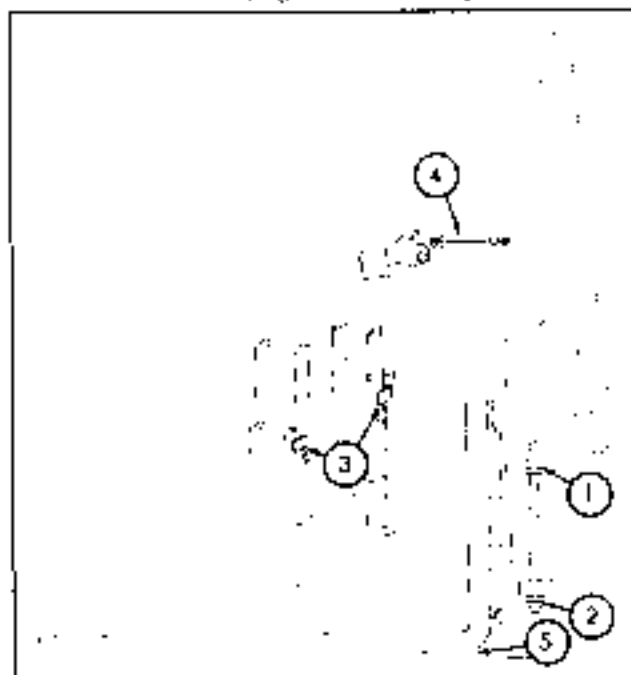

Fig. 1-63. Adjusting lift chains
d. Turn rod into chain anchors approximately 1-1/4 inches (at 1, figure 1-63). Adjust spherical nuts (2, figure 1-63) for fork-to-floor clearance of 0 to 3/4 inch (both sides).
e. Raise upright to its fullest height and check to insure a clearance at 3, figure 1-63. If stop blocks are touching, readjust spherical nuts to obtain a clearance of at least 1/8 inch.
f. Attach tension scale as shown (4, figure 1-63) and measure deflection in chain. Attach the scale to the other chain at the same height, apply the same pull, and measure the deflection. Adjust spherical nuts to equalize deflection with the same pull applied. Tighten jam nuts securely.
g. Check again for clearance at (3) with upright fully extended. Adjust as necessary.